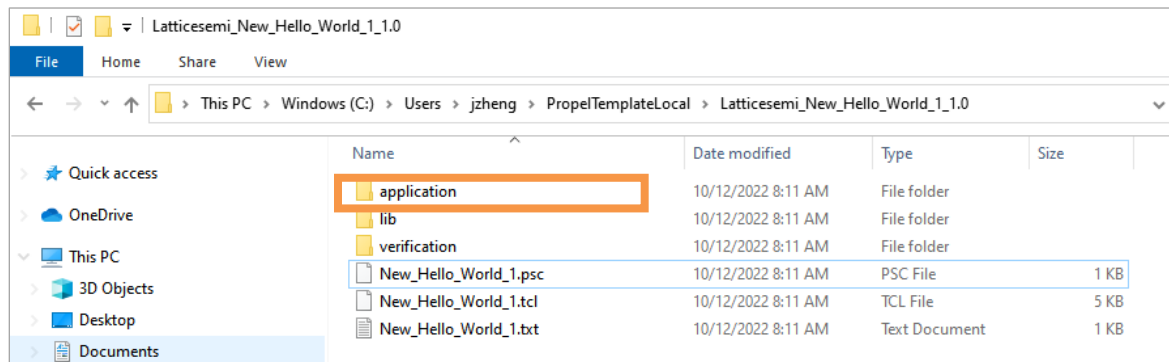

Figure 2.180. Export Template to PropelTemplateLocal Folder
- By default, after you click the Generate button, the new template can be installed to your custom template folder, which is a folder named PropelTemplateLocal under \$HOME (Figure 2.180).
- Option under Template Resources, such as the application folder, contains functional-ready embedded application source codes for C project. Check the box before it (Figure 2.179), then the application under current project is also exported to destination (Figure 2.180). Other files under this option works the same way.